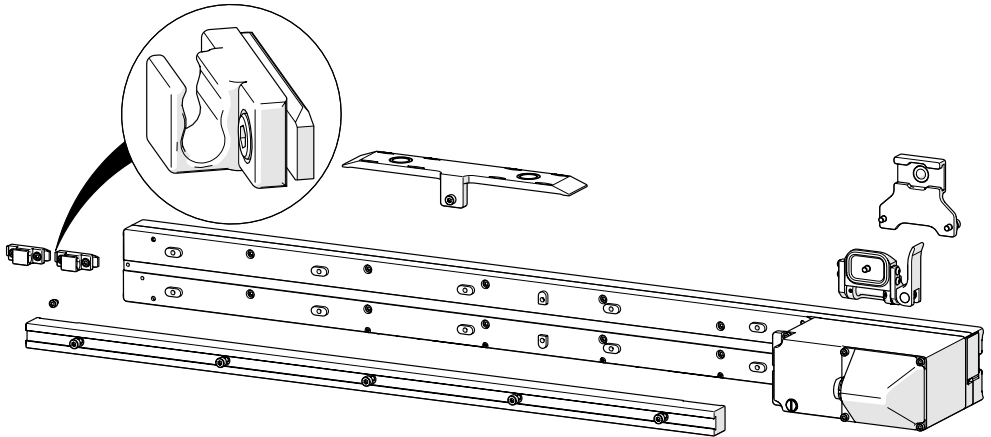

Fig. 150 - Ensure proper cable management clip orientation
9. Confirm the cable management clips are in proper orientation (Fig. 150).